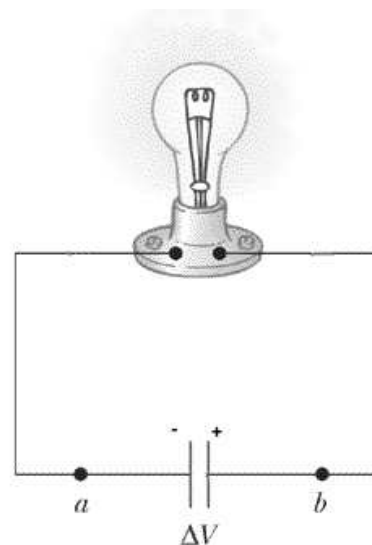

Figure 1
A4. Suppose you connect one plate of a charged capacitor to one terminal of a light bulb. Then connect the other terminal of the bulb to the other capacitor plate. Figure 1 shows the circuit. Compare the charge flow at points a and b on each side of the light bulb? Does charge accumulate inside the light bulb? Does the light bulb “use up” the current?
- With the power supply turned off, connect the power supply, resistor, wires, and clips as shown in Figure 1. Take care that the positive lead from the power supply and the red terminals from the Current & Voltage Probes are connected as shown in Figure 2.